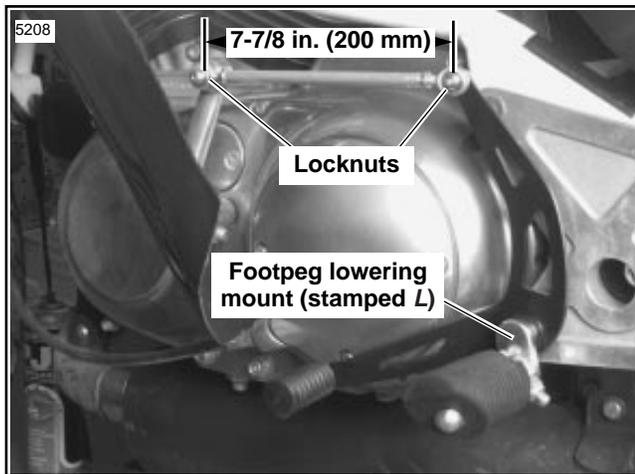

Figure 1. Shift Rod Installation
1. See Figure 1. Loosen locknuts on both sides of shift rod. Remove rear turn buckle mounting nut and screw. Remove rear turn buckle and disconnect shift rod.
7. See Figure 1. Install new shift rod using existing hardware. There should be 7-7/8 in. (200 mm) between the shift lever and the front shift lever, measured from the retaining screws centerline.